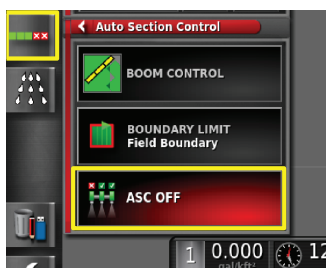

Figure 13
- Expand the Auto Section Control (ASC) Configuration screen and press ASC ON (Figure 13).